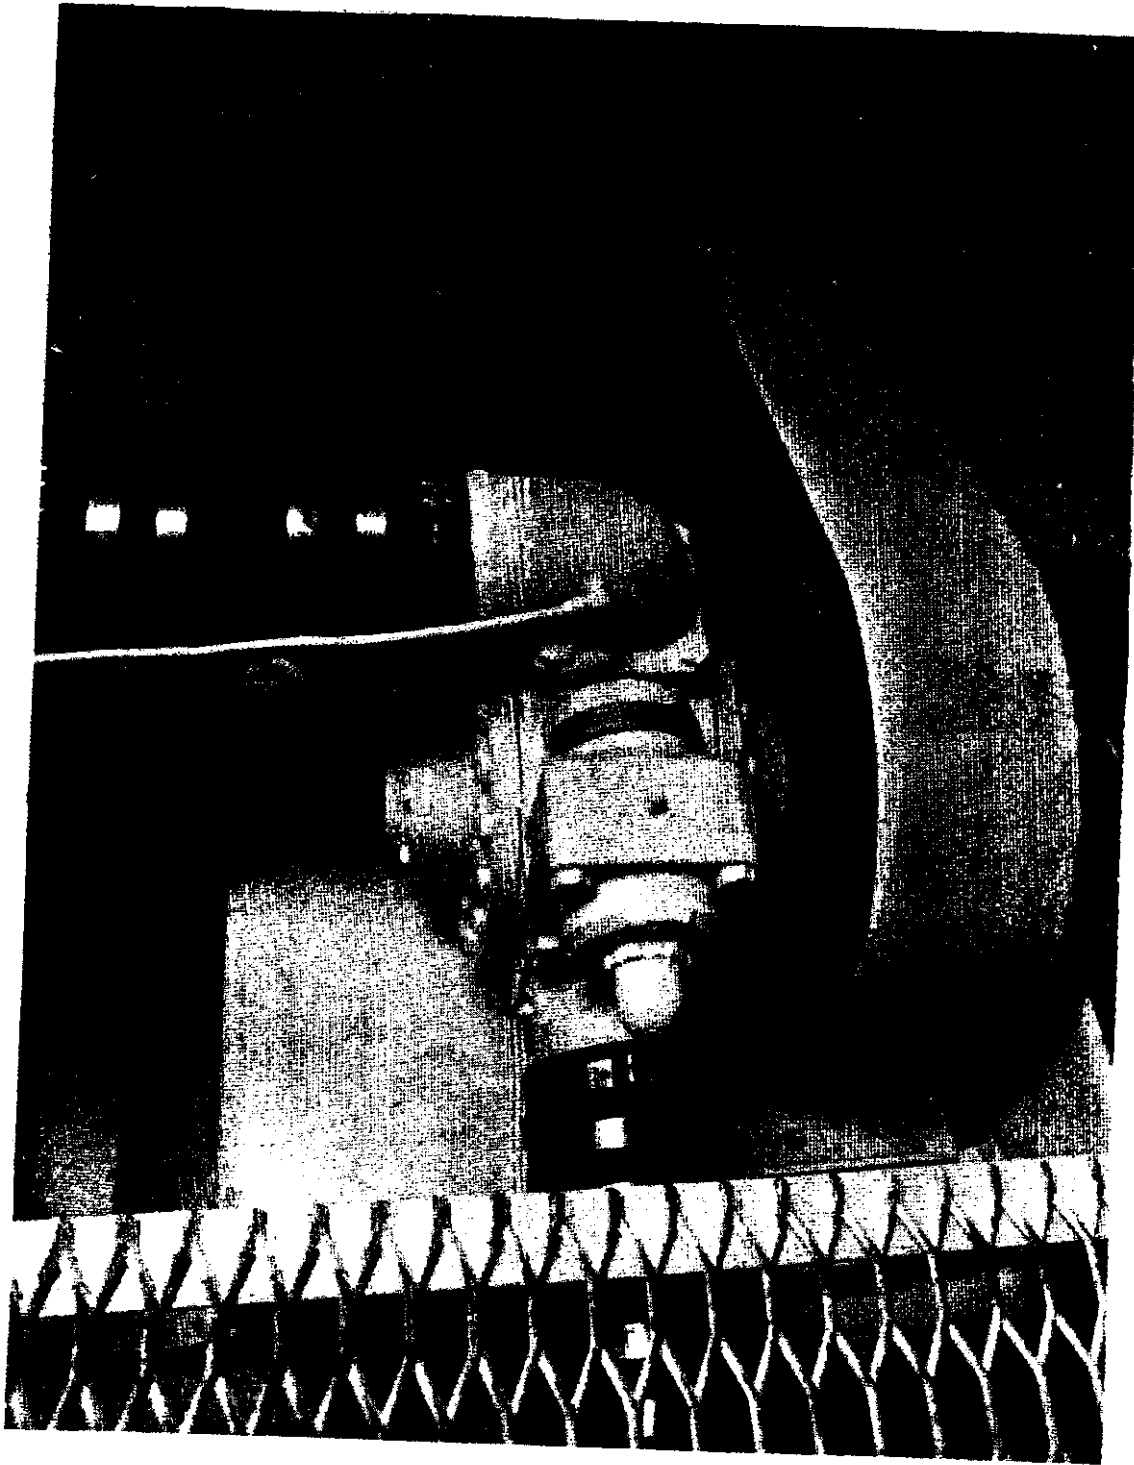

FIGURE 2-6
2.3.1 Cargo Pumps. Two cargo pumps are provided for the offloading and transfer of cargo between tanks (see Figure 2-6). Both pumps are Blackmer, Pump Division/Dover Corporation, Model